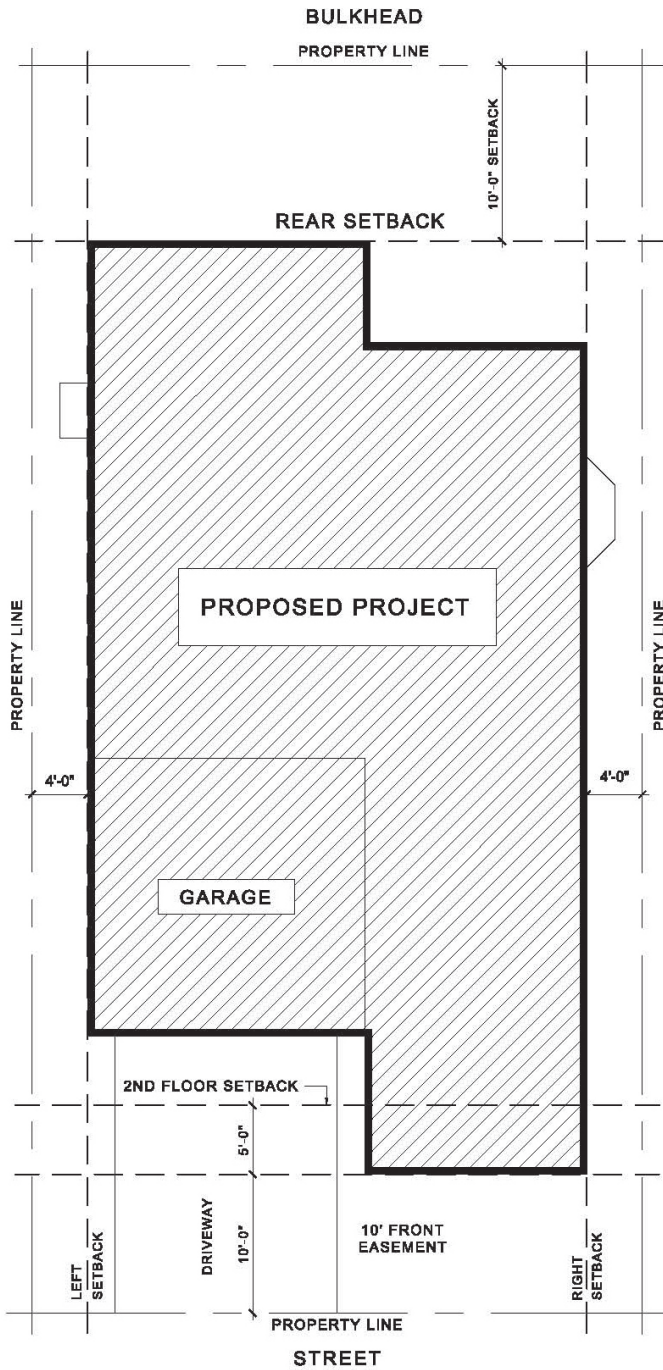

Figure 5
- Lots indicated as a "zero" front yard setback (Lots #1-11, Tract 3277) require a 5'-0" setback from back of community easement (see Fig. 5 & 6).
## C.5 ZERO FRONT SETBACK LOT DIAGRAM: BAYSIDE LOTS - FIGURES 5 & 6